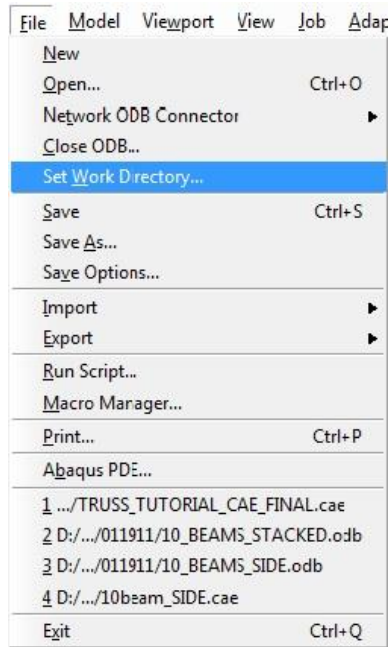

Figure 31. Set Work Directory
- To ensure that the input files write to the correct folder, setting the work directory must be accomplished. At the top of the screen, click **File** and in the dropdown menu click **Set Work Directory...** (Figure 31).